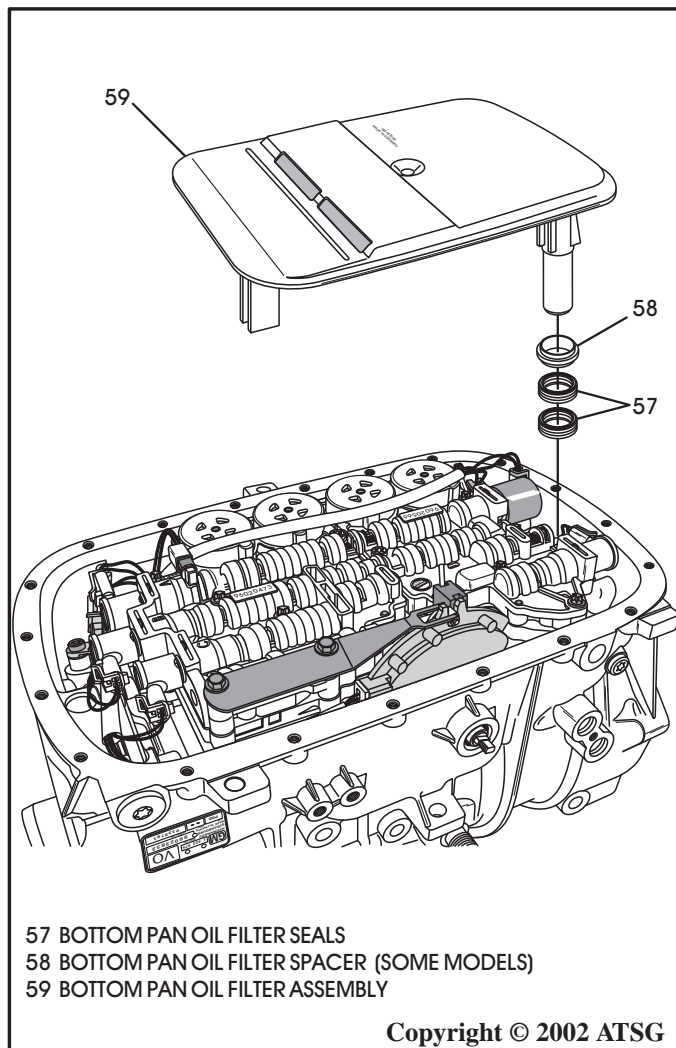

Figure 36
20. Remove and discard the bottom pan oil filter, as shown in Figure 36.
21. Remove the oil filter spacer, if used, and store in a safe place for transmission re-assembly (See Figure 36).
23. Notice that there are two filter seals used with this unit, as shown in Figure 36.